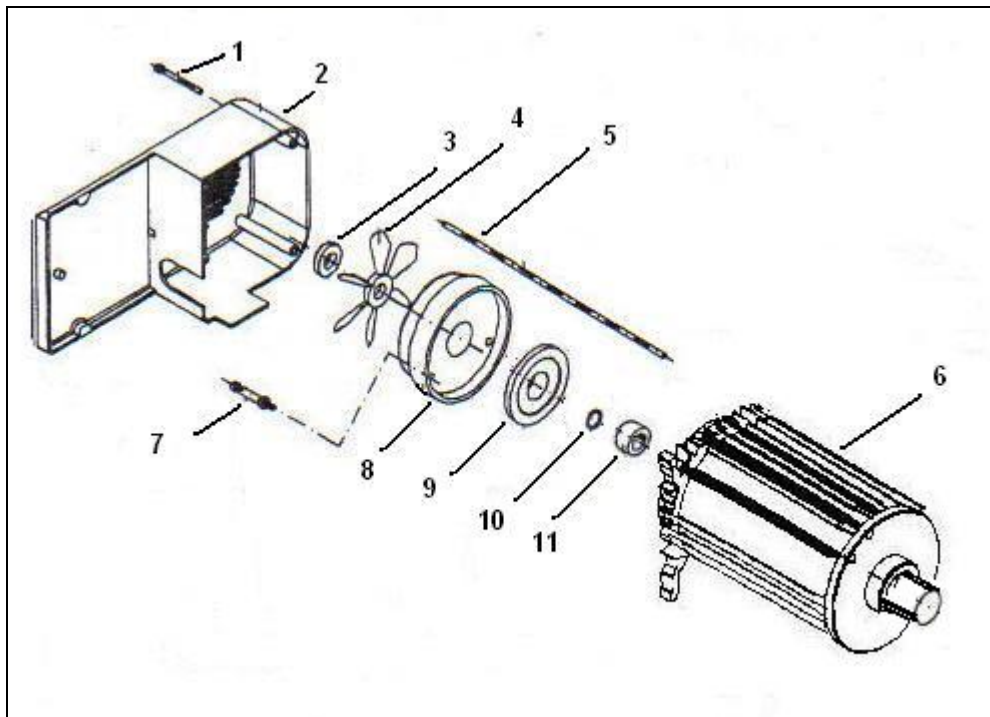

FIGURE 5.2
Remove Hoist Motor and Brake Assembly (refer to Figure 5.2)
Installing Hoist Motor and Brake Assembly (refer to Figure 5.2)
Removing Hoist Motor Brake (Refer to Figures 5.2 and 5.3)
5. Remove three (3) screws (item 1- figure 5.2) and take off Brake and Fan Cover (item 2-figure 5.2).
Installing Hoist Motor Brake (Refer to Figures 5.2 and 5.3)
6. Mount fan (item 4 – Figure 5.2) and install lock collar just above fan hub.